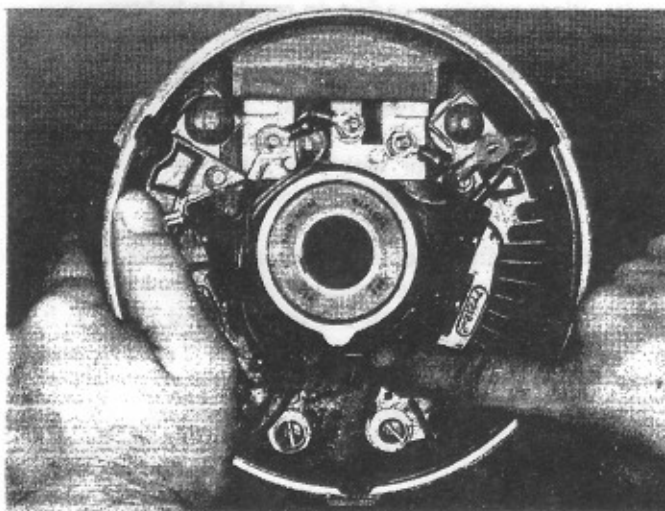

Figure 35
- 3.36 Install negative rectifier leads to AC terminals. The longest lead must be routed under the bearing and must be connected to LEFT AC TERMINAL. Fig. 35.